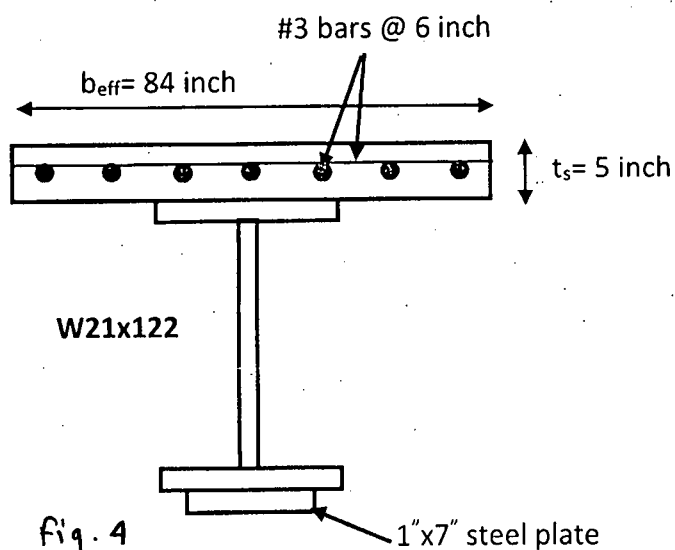

Fig. 4
- (b) A pretensioned concrete beam, 12 metre long is eccentrically prestressed with 1400 mm2 of steel wires which are anchored to the bulk heads (Fig. 4). The stress at this situation is 1020 MPa. Compute the loss of prestress due to elastic shortening of concrete at the transfer of prestress. Use,  $\gamma_{conc} = 25 \text{ kN/m}^3$  and  $n = 6$ . (15)
5. For the composite beam section shown in Fig. 4, (7.5+10)